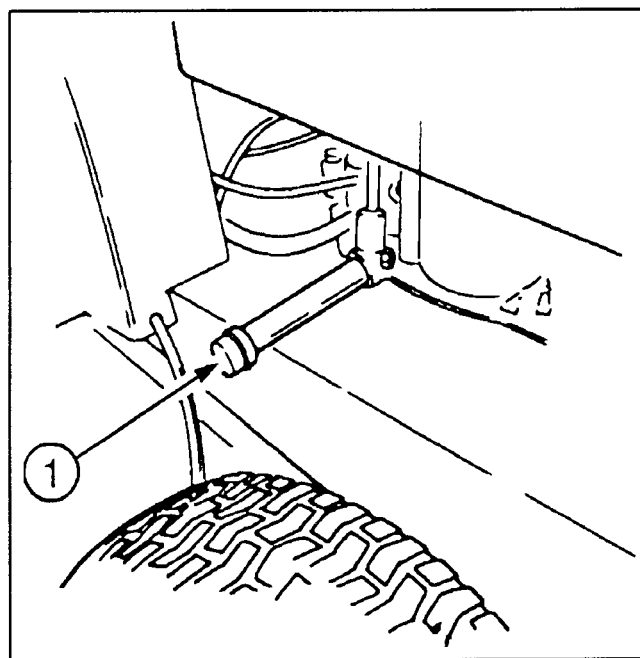

Figure 15
- Turn the engine off and place the drain pan below the drain plug (Fig.15). Remove the drain plug, and allow all oil to flow into the drain pan. Reinstall the drain plug after oil stops flowing.